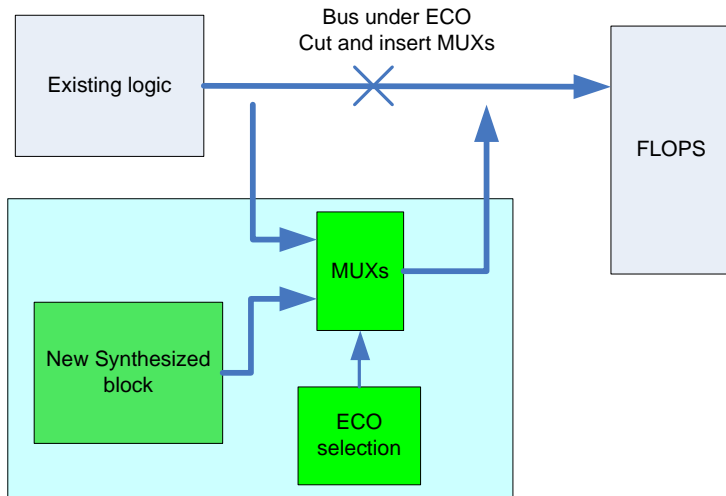

Figure 1
Figure 1 shows one use case which has a new block inserted to an existing bus by multiplexers
Create a tiny RTL file with only the necessary logic. In this case, it's an incrementor-by-one module. If the green box 'ECO selection' in figure 1 has complicated logic, it can be added into the tiny RTL module as well. Now assume it is simple enough.
- Connect MUXs' S0 pins to qciflt_mode as the 'ECO selection' green box shown in Figure 1.